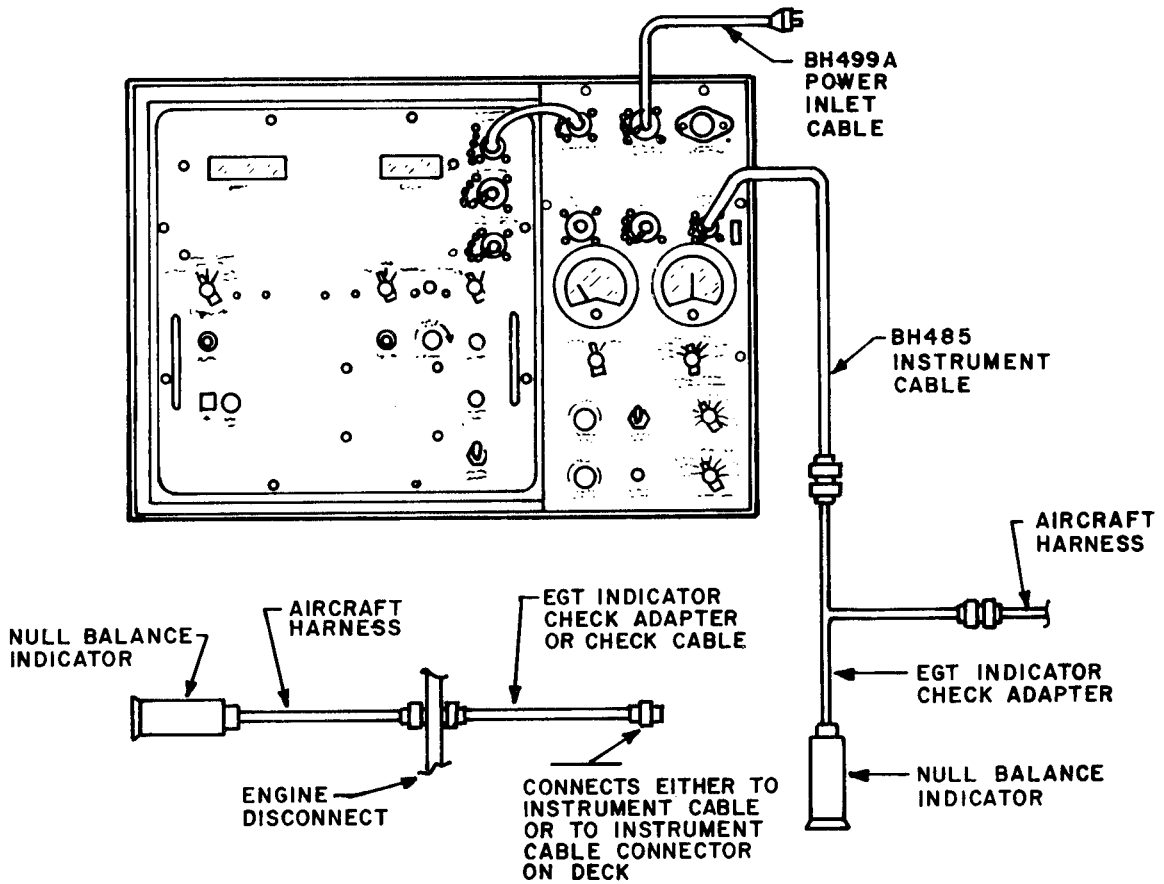

Figure 2-5. Null Balance Temperature Indicator Check Setup.
(3) Turn FUNCTION SELECT switch to A/C IND CHECK position, TEMPERATURE switch to OPERATE position, and MASTER POWER switch to ON position.
(4) Observe reading on tester TEMP indicator and adjust A/C IND ADJ control to test temperature reading (usually 600 °C).
(5) The difference in the indication of the tester TEMP indicator and the aircraft indicator is the error of the aircraft indicator and should not exceed allowable technical manual tolerance.
(6) If aircraft indicator exceeds technical manual tolerance, repair or replace indicator.
(7) If indicator is within tolerance, proceed to check resistance in paragraph *d*.
(8) Turn FUNCTION SELECT and MASTER POWER switches to OFF position before removing cables from tester and aircraft indicator.
c. Null-Balance Temperature Indicator Check. Connect the tester to the indicator at the engine disconnect or at the indicator using the appropriate adapter as shown in figure 2-5 and proceed as follows:
(1) Turn FUNCTION SELECT switch to A/C IND CHK position, RESISTANCE & A/C INDICATOR CHECK switch to NULL BAL position, TEMPERATURE switch to OPERATE